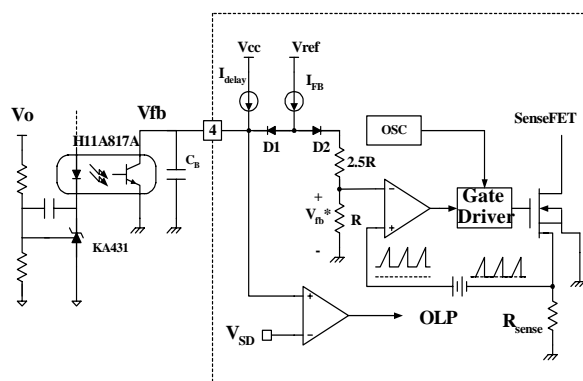

Figure 5. Pulse Width Modulation (PWM) Circuit
2. Feedback Control: FSDM0465RB employs current mode control, as shown in Figure 5. An opto-coupler (such as the H11A817A) and shunt regulator (such as the KA431) are typically used to implement the feedback network. Comparing the feedback voltage with the voltage across the R_{sense} resistor plus an offset voltage makes it possible to control the switching duty cycle. When the reference pin voltage of the KA431 exceeds the internal reference voltage of 2.5V, the H11A817A LED current increases, thus decreasing the feedback voltage and reducing the duty cycle. This event typically happens when the input voltage is increased or the output load is decreased.
2.1 Pulse-by-Pulse Current Limit: Because current mode control is employed, the peak current through the SenseFET is limited by the inverting input of the PWM comparator (Vfb*) as shown in Figure 5. Assuming that the 0.9mA current source flows only through the internal resistor (2.5R + R = 2.8 kΩ), the cathode voltage of diode D2 is about 2.5V. Since D1 is blocked when the feedback voltage (Vfb) exceeds 2.5V, the maximum voltage of the cathode of D2 is clamped at this voltage, thus clamping Vfb*. Therefore, the peak value of the current through the SenseFET is limited.